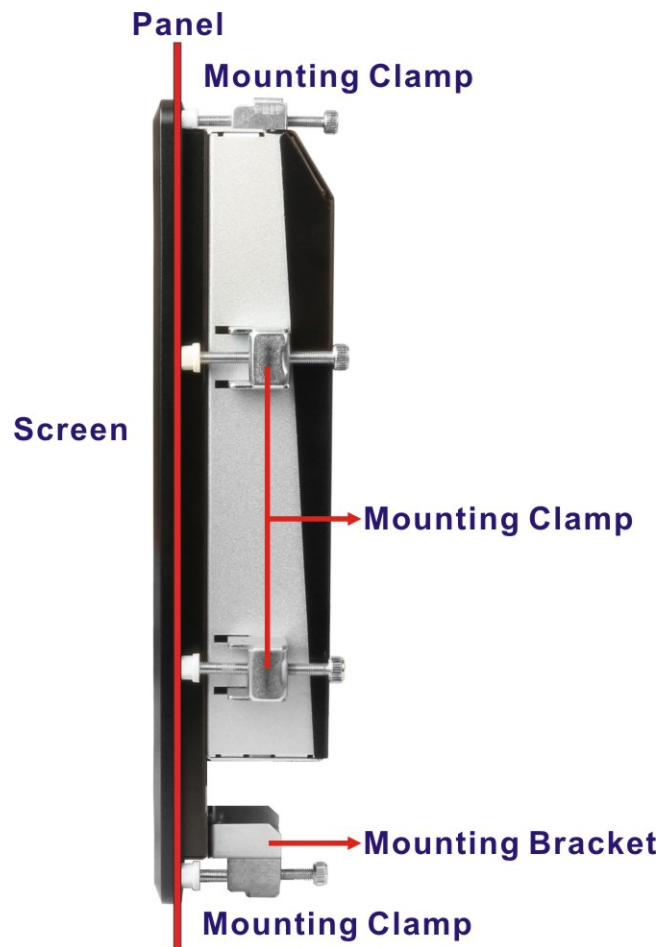

Figure 3-34: Tighten the Mounting Clamp Screws
- Step 17:** Insert the mounting clamps into the mounting brackets and pre-formed holes along the edges of the PPC-FxxA-H81, behind the aluminum frame (**Figure 3-34**). The required number of mounting clamps may vary by models.
- Step 18:** Tighten the screws that pass through the mounting clamps until the plastic caps at the front of all the screws are firmly secured to the panel (**Figure 3-34**).